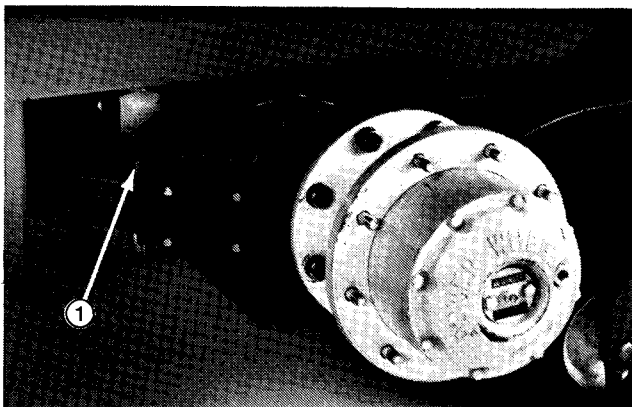

Figure 5
2. Install a hose on right hand bleed screw (Fig. 5). Bleed screw is on wheel brake actuator. Have open end of hose submerged in a glass container of clean brake fluid.